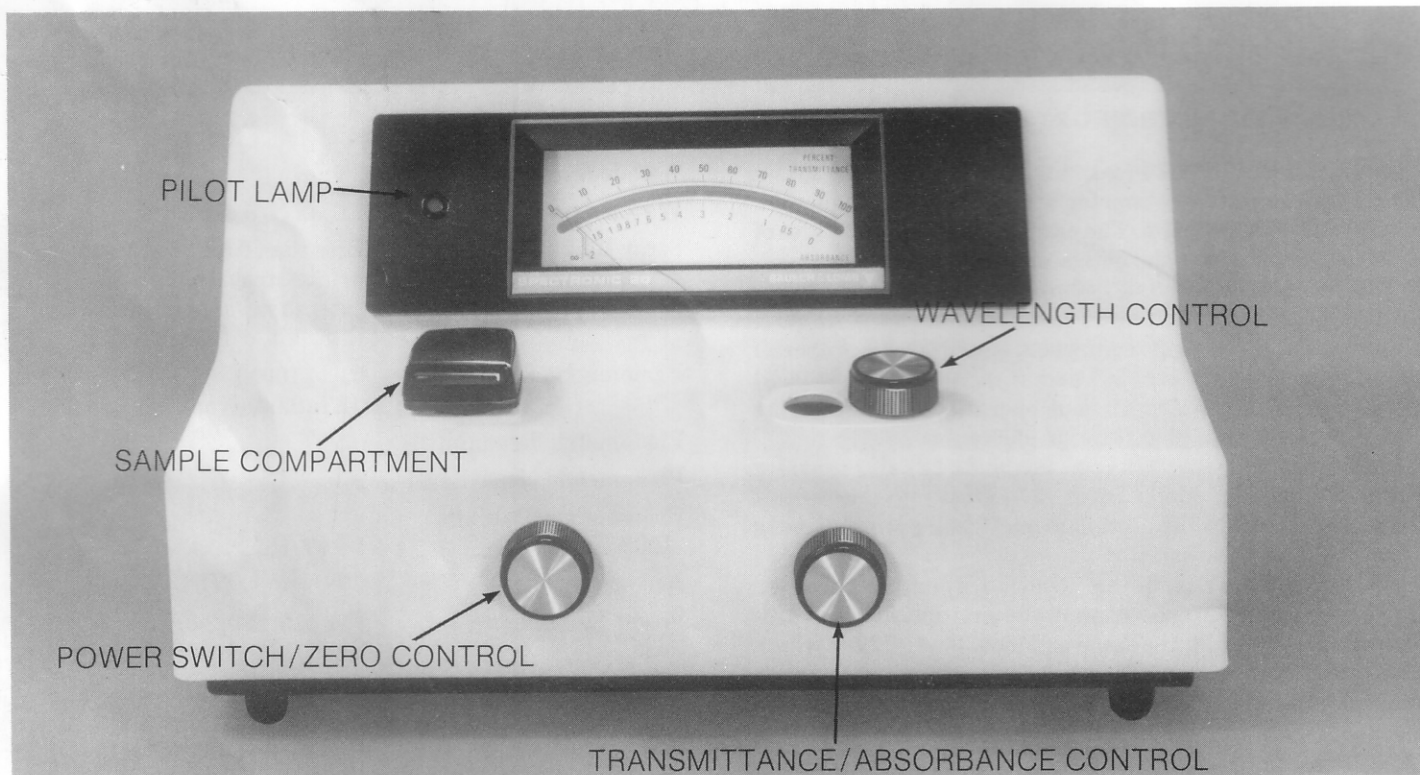
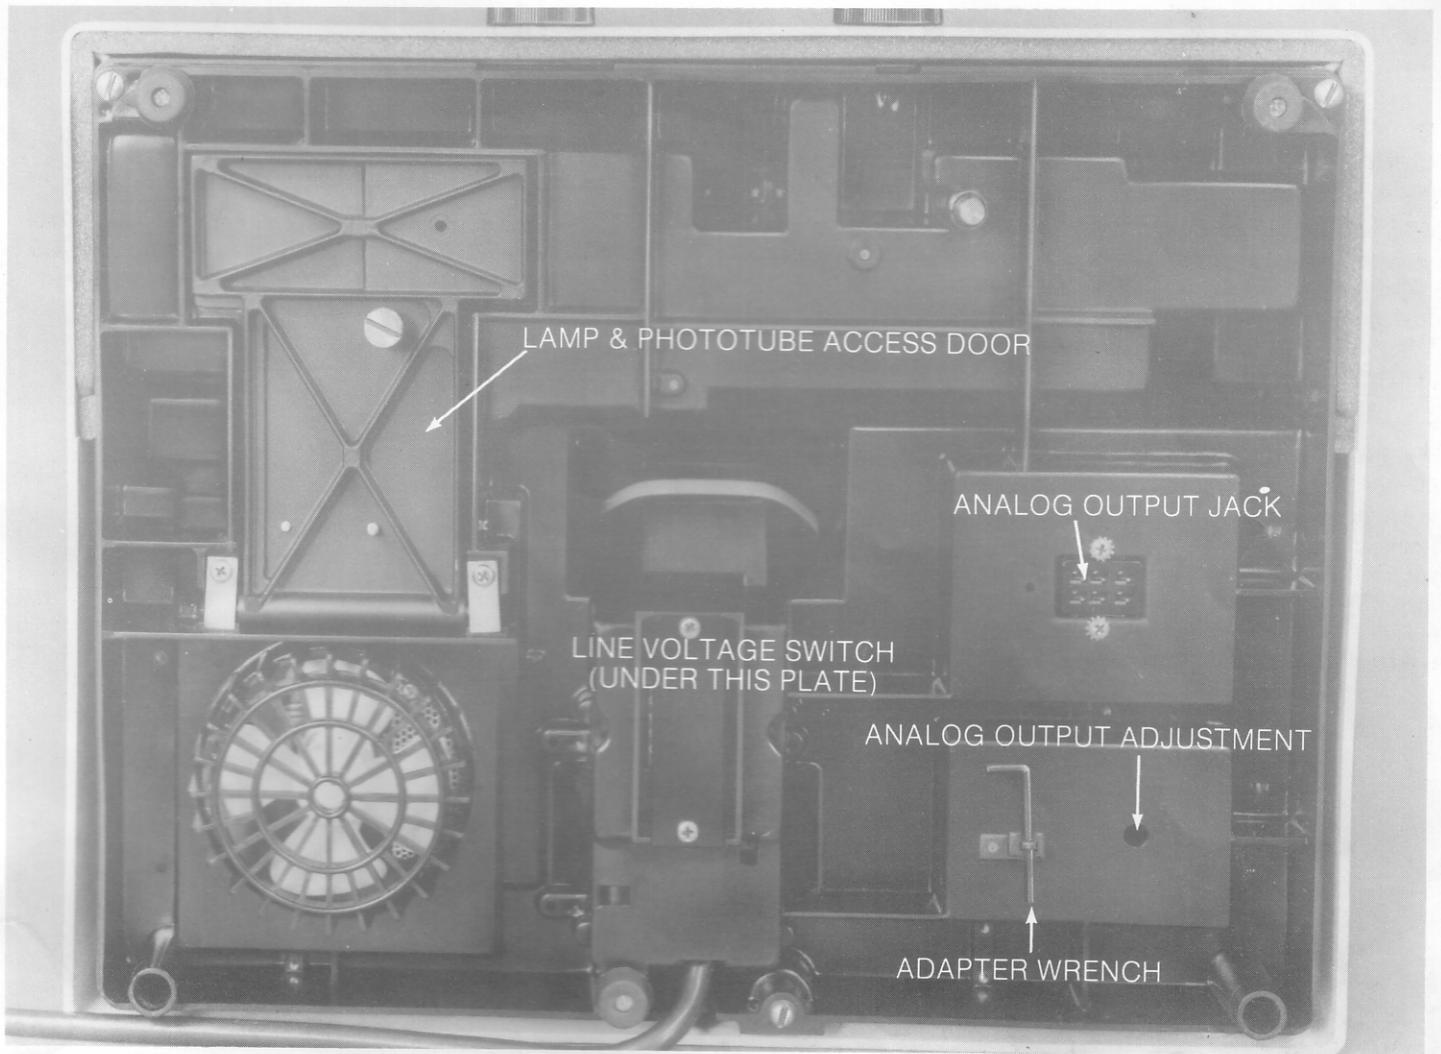
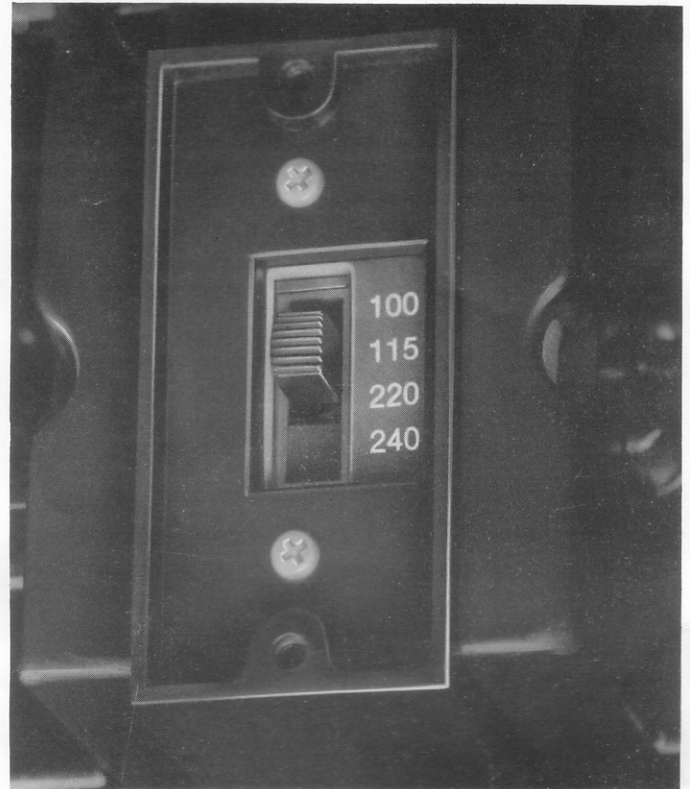

Figure 2. Key Operating Features
Figure 3. Bottom View
Figure 4. Line Voltage Selection Switch (located under access plate shown in Figure 3)
Figure 2 shows the key features of your spectrophotometer. The three main controls for routine operation are Wavelength Control, Power Switch/Zero Control and Transmittance/Absorbance Control. The accessory Analog Output Jack is located on the underside of the instrument, as shown in Figure 3.
To make the adjustment, use a small screwdriver on the recessed control marked Analog Output Adjustment in Figure 3.
The spectrophotometer contains a multiple-tap power transformer for operation on 100, 115, 220, 240 VAC, 50/60 Hz. It is set to operate at 115 VAC when it leaves the factory in Rochester, New York, USA. If conversion is necessary, the voltage selection switch, shown in Figure 4, will adapt the instrument to the available line voltage. The switch is accessible by removing a cover plate located on the bottom of the instrument (see Figure 3).
- b. Remove the two screws holding the switch cover plate located in the lower center of the base, shown in Figure 3.
In addition to the standard 1/2-in. test tube and 1/2-in. adapter supplied with the instrument, several types of glassware are available. The sample adapter must match the glassware, as shown in Table 1. To change adapters, loosen the small set screw on the inner wall of the adapter using the adapter wrench clipped to the bottom of the instrument (see Figure 3).
- c. Loosen the thumbscrew on the lamp access door (see Figure 3) and open the door.